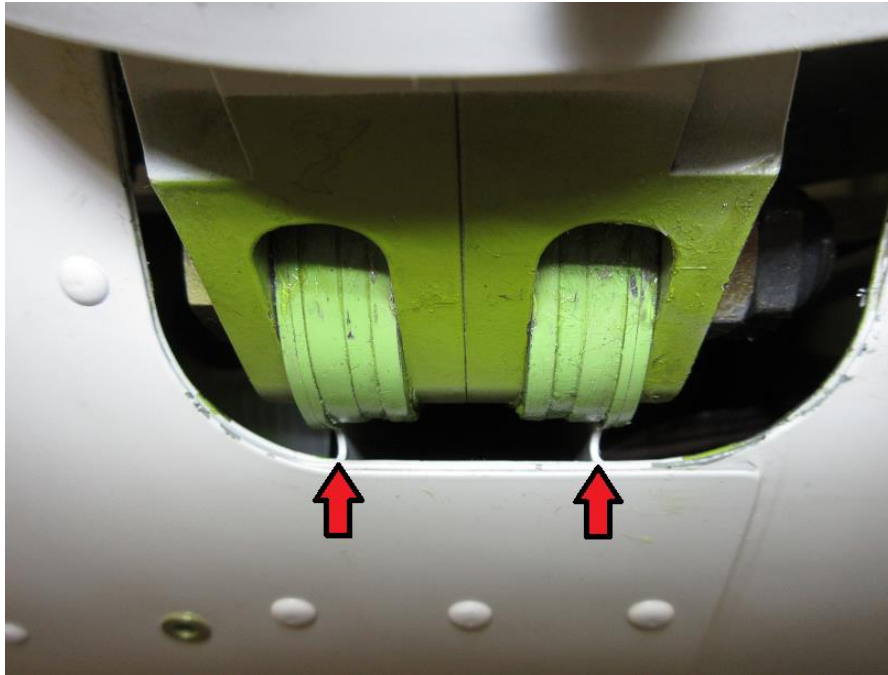
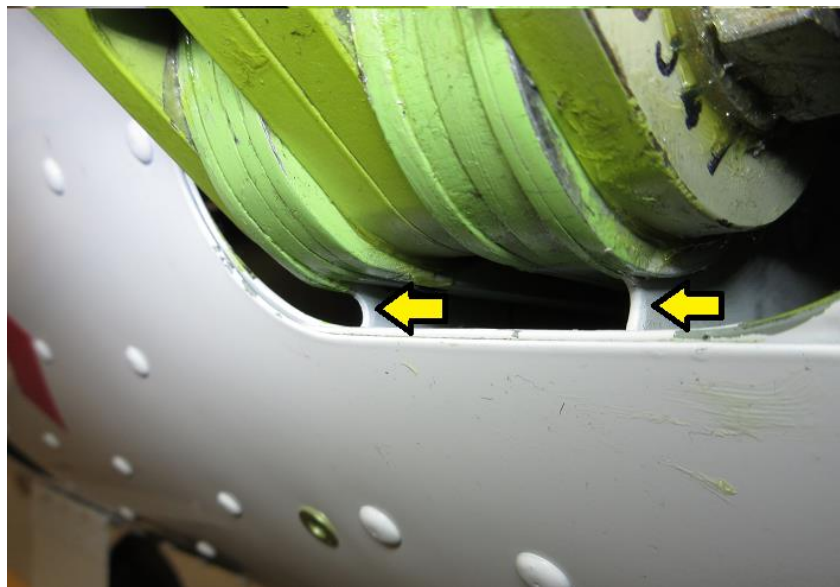
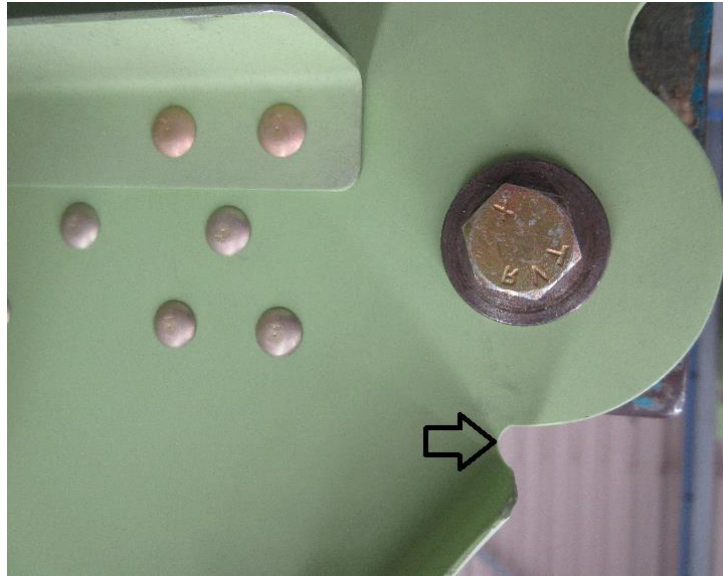

Figure 1: Strut Pickup Rib Inspection Area
Figure 2: Possible Crack Locations
Figure 3: Area of Rib for Inspection
- 4) Perform a detailed visual inspection, using at least a strong light source and preferably 10x magnification, or a non-destructive inspection, of the radius below the wing strut attachment lug(s) as identified in Figure 1, Figure 2 and Figure 3. Check for any crack indications. Typical cracks are shown in Figure 4.